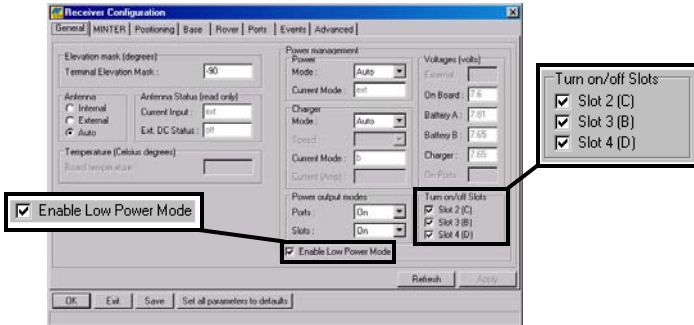

Figure 3-6. Enable Slots and Low Power Mode
8. Select and check each of the **Turn on/off Slots** check boxes to enable the corresponding internal slots (Figure 3-6).
- Select and check the **Enable Low Power Mode** check box to put the receiver's processor into low power consumption mode (Figure 3-6).